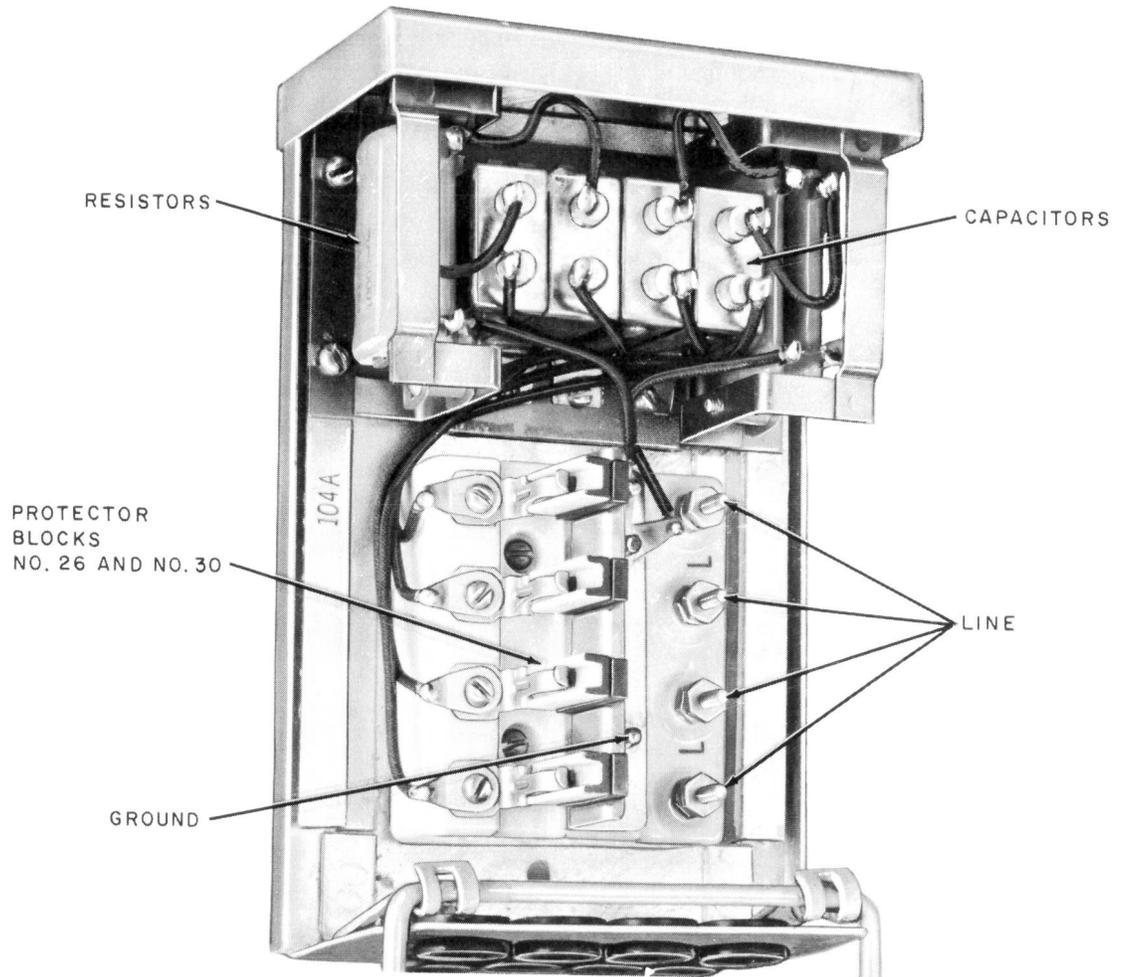

Fig. 3—104A Protector
**3.02** Fig. 3 shows the inside of a 104A Protector, and indicates the ground binding post and the binding posts for the two telephone lines.